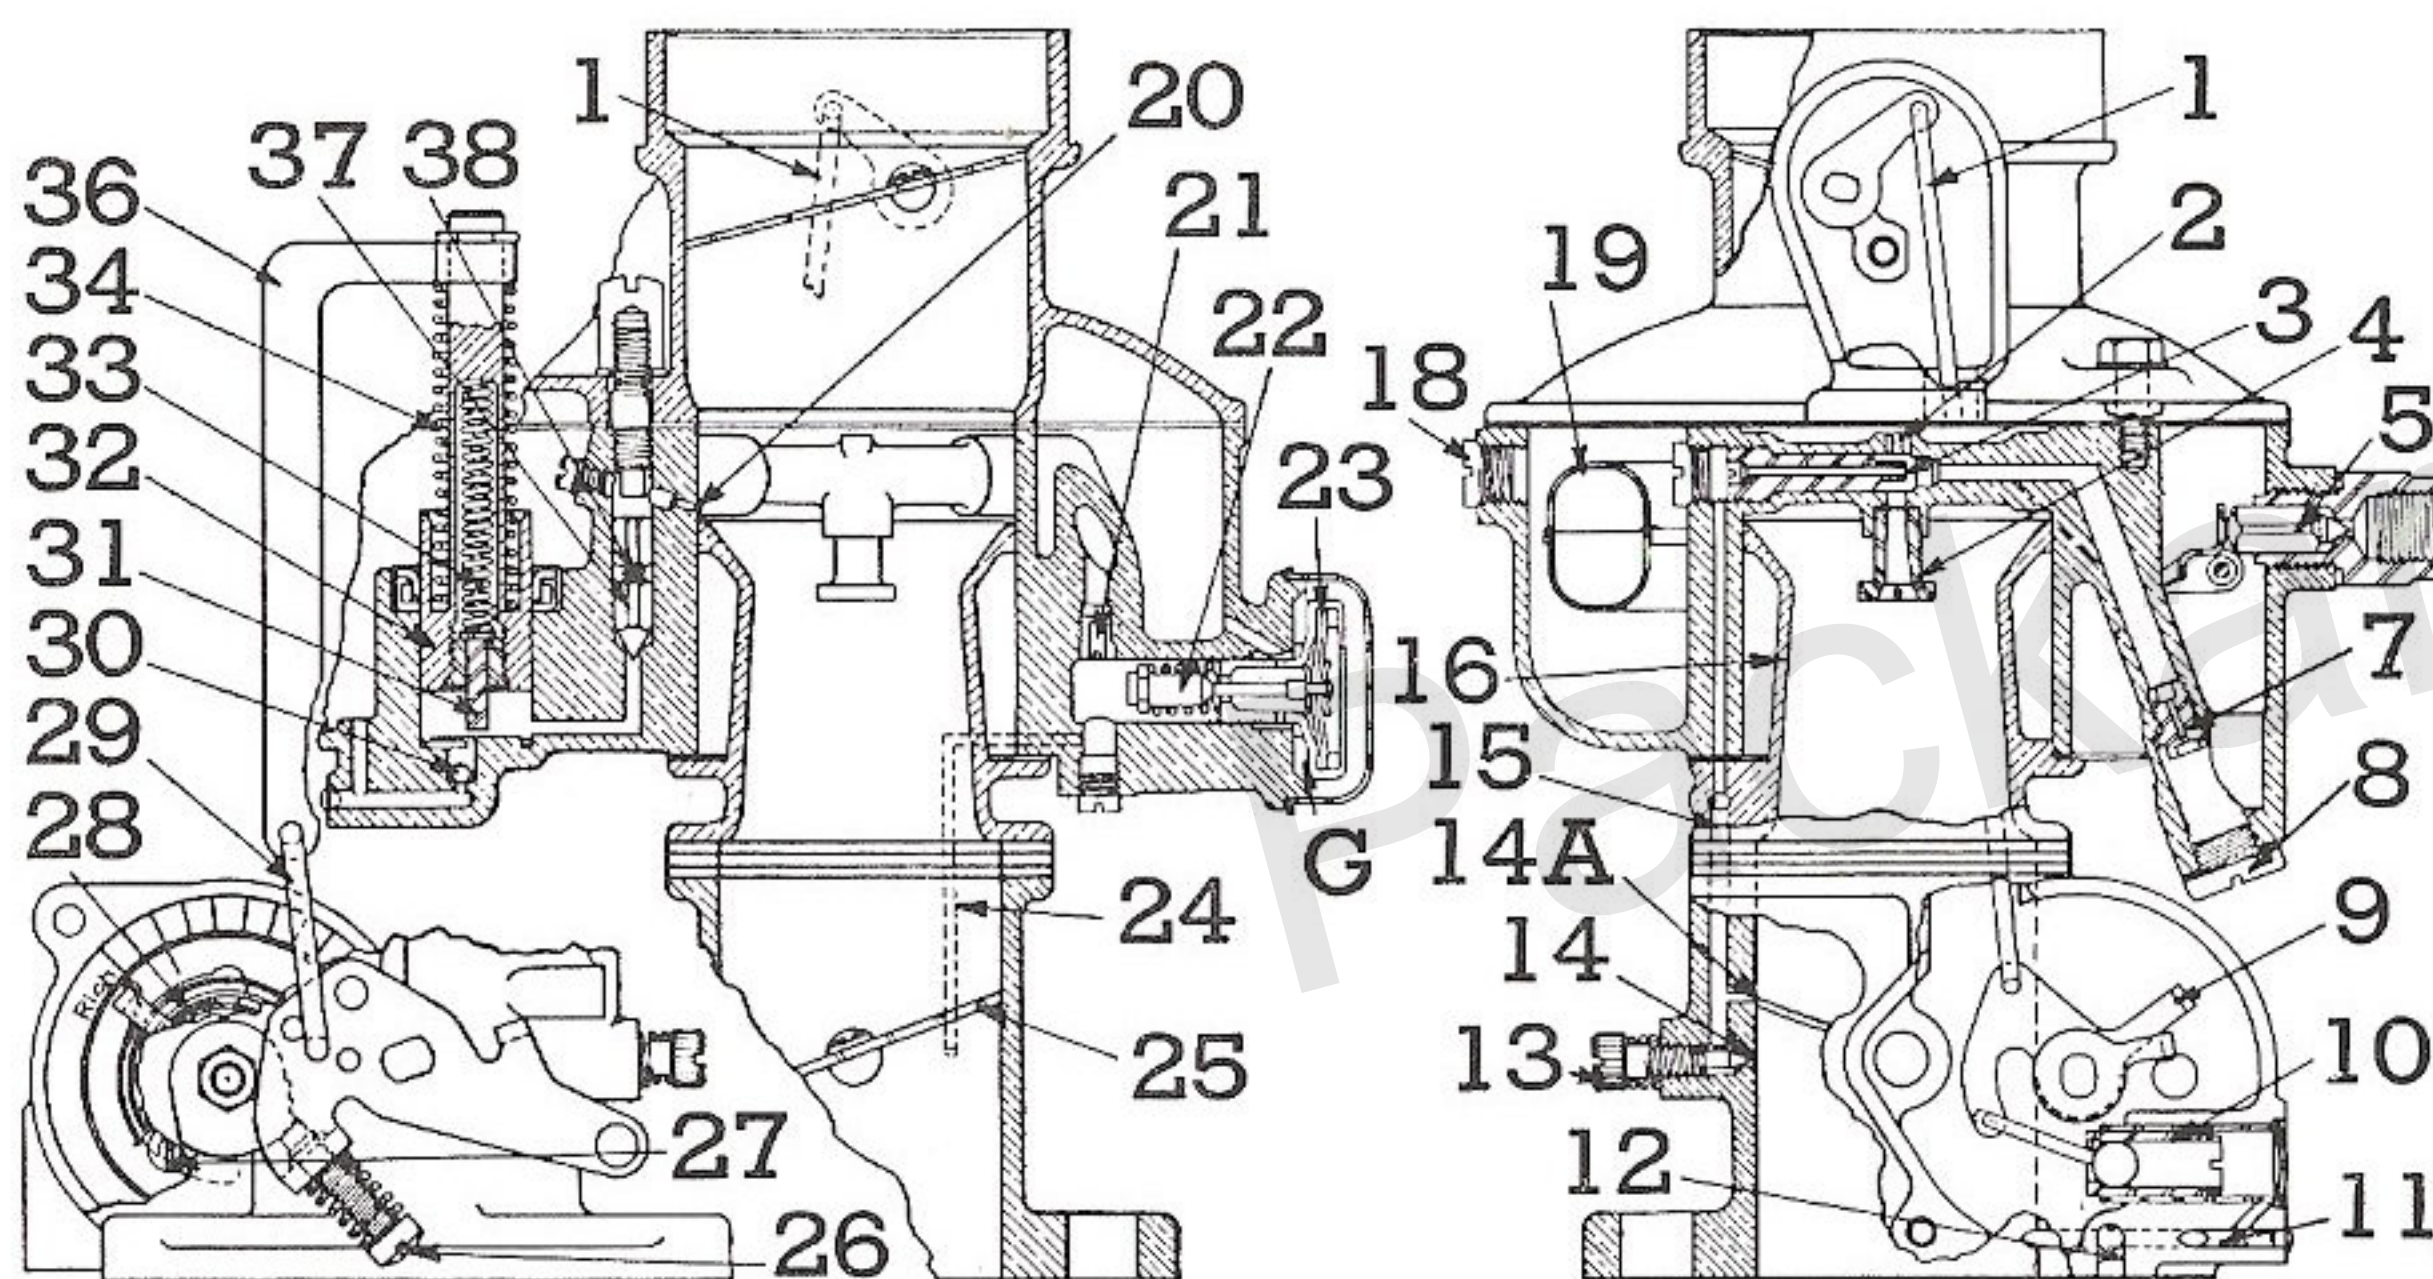

Fig. 9—Sectional View of C and G Carburetor Used on Packard Six
The CG (Chandler and Groves) carburetor, shown in Fig. 9 is of the plain tube type with fixed metering orifices, a suction controlled economizer valve and a built-in automatic choke.
2. Correct any bearing friction in movement of thermostat lever "9" and vacuum piston "10," Fig. 9. Reconnect choke rod "1" making sure it does not bind in carburetor body.